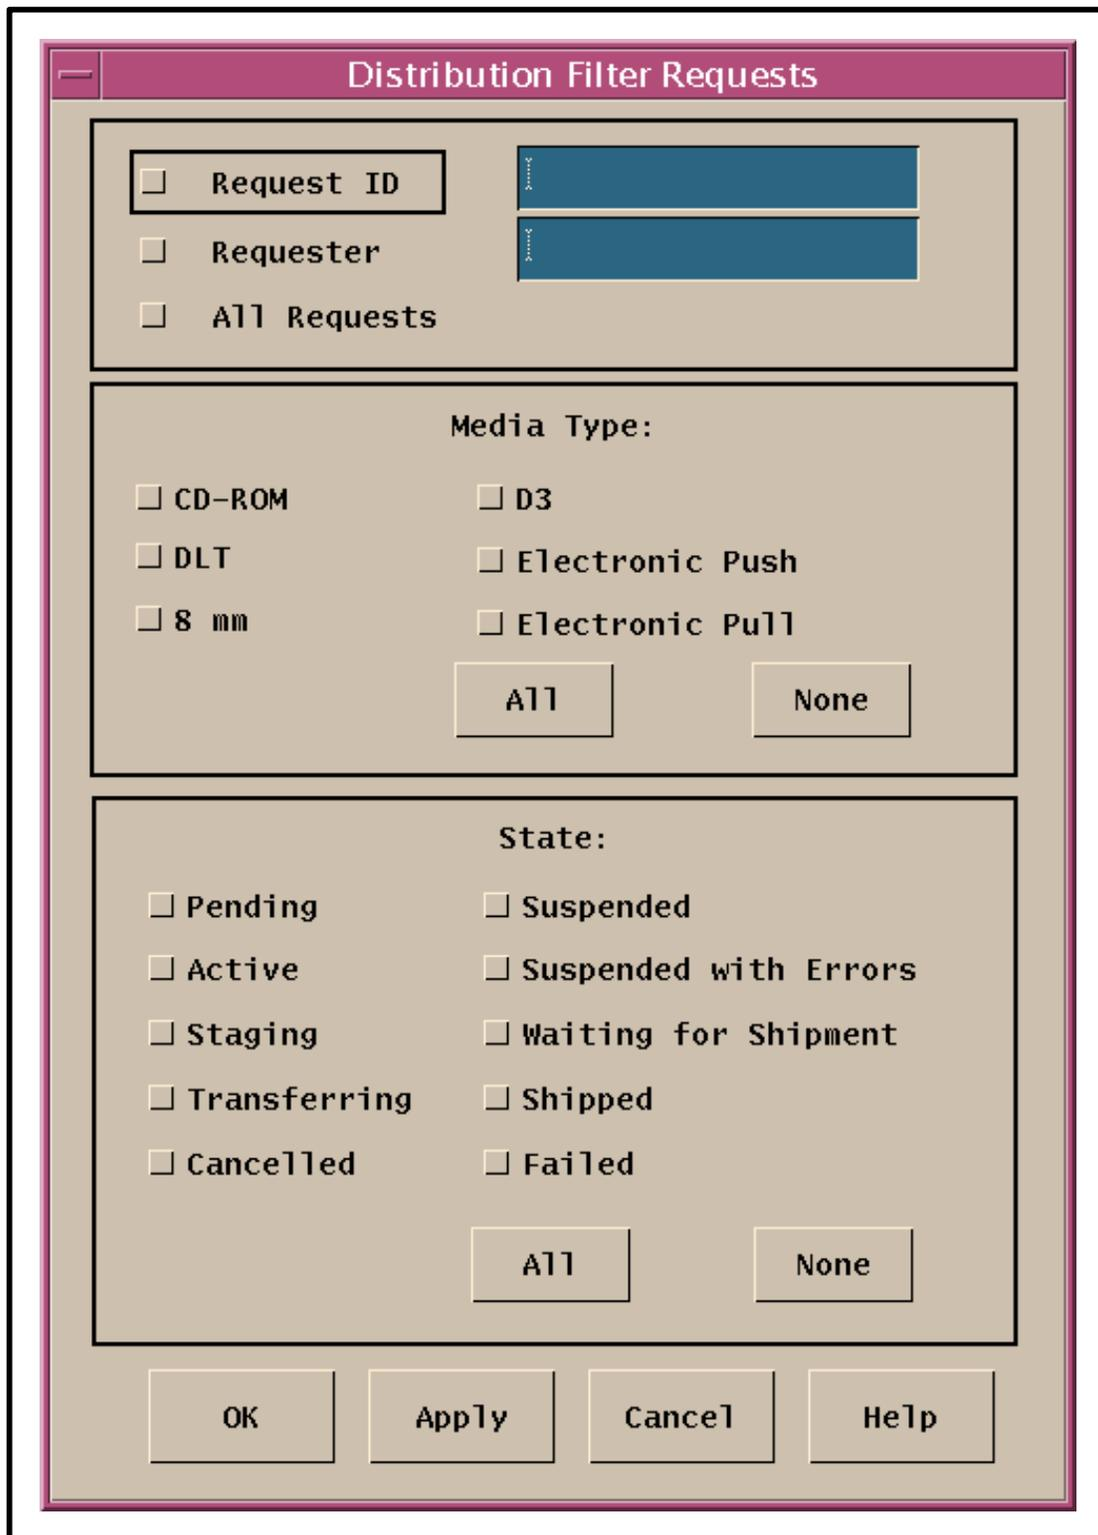

Figure 8. Distribution Filter Requests Dialogue Box
- The **Distribution Filter Requests** dialogue box (Figure 8) is displayed.